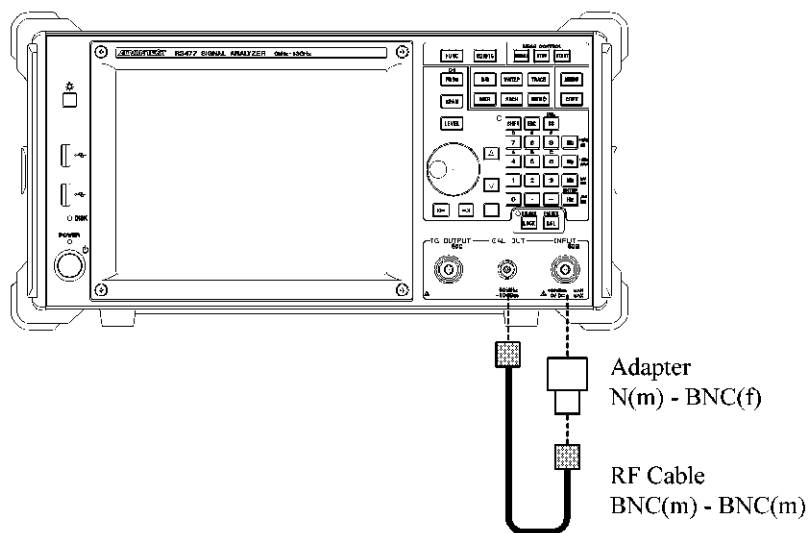

Figure 3-11 Autocalibration
6. Connect as shown in Figure 3-11 by using included N(m)-BNC(f) adapter and input cable (A01037-0300).